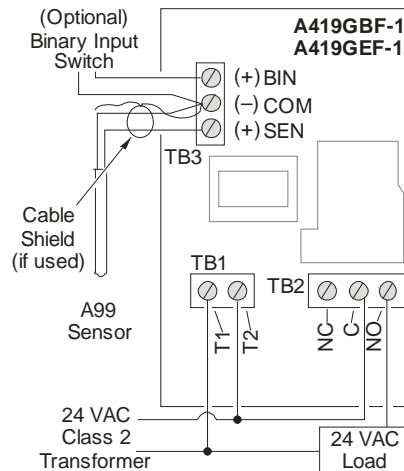
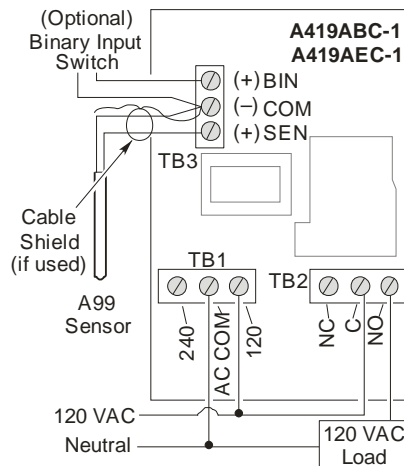
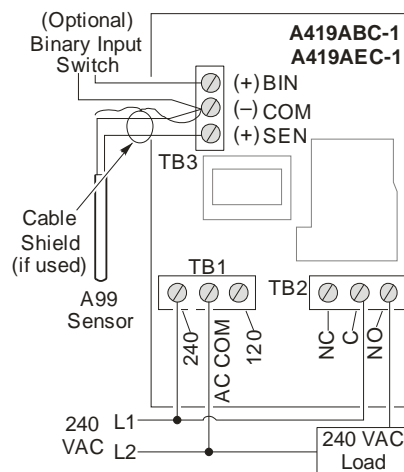

Figure 9: Wiring the 24 VAC A419 Control
Figure 10: Wiring the 120 VAC A419 Control
Figure 11: Wiring the 240 VAC A419 Control
See Figure 9, Figure 10, and Figure 11 for typical examples of wiring an A419 control to the controlled equipment.
A99 temperature sensors are not polarity sensitive. Wire the leads to (+) **SEN** and (-) **COM** on the sensor terminal block (**TB3**). See Figure 9, Figure 10, and Figure 11.
If the **Temperature Offset** function is used, wire a switch (such as a switching time clock) between the binary input terminal (**BIN**) and the common terminal (**COM**). See Figure 9, Figure 10, and Figure 11 for terminal strip location.
- b. Use a reliable AC voltmeter to check the voltage between the **COM** and **120V** or **240V** terminals on line voltage models and the two 24V terminals on low-voltage models. See Figure 9, Figure 10, and Figure 11.